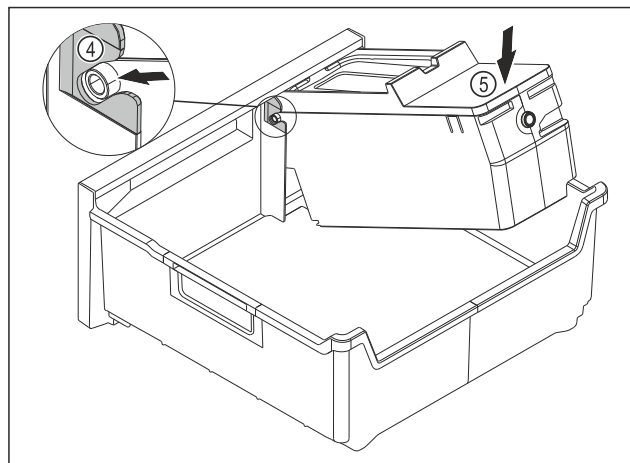

Fig. 147
- ▶ Installing the EasyTwist-Ice body: Push the axes for the EasyTwist-Ice body into the guides Fig. 147 (4).
- ▶ Press the EasyTwist-Ice body Fig. 147 (5) down at the back.